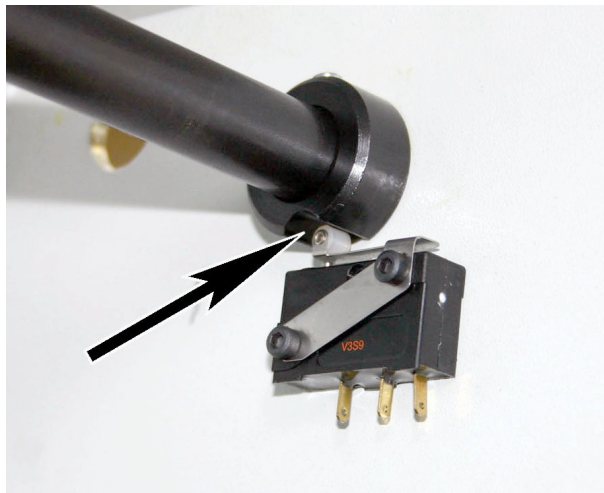

Fig. 5
8. Turn the metal ring until the end switch grips the notch in the metal ring (safety bow is closed, Fig. 5, arrow).